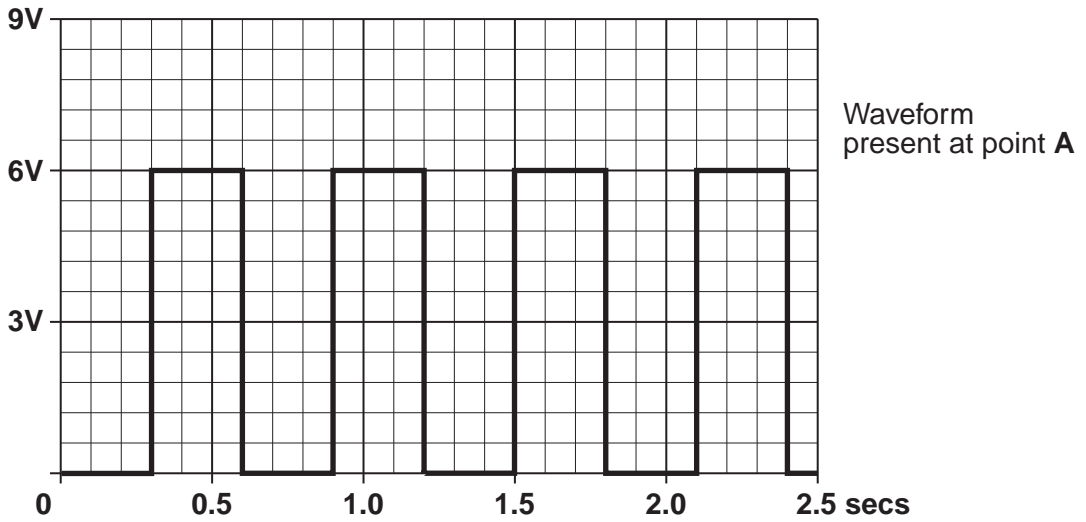
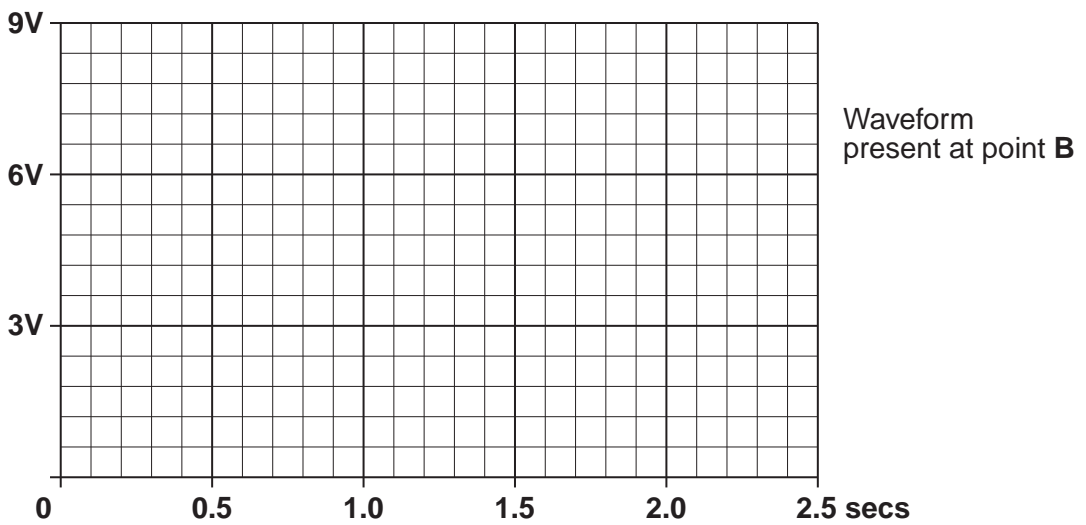

Fig. 6a
Fig. 6b
- (v) Fig. 6a shows the waveform present at point A. Complete the graph in Fig. 6b by drawing the waveform present at point B of the circuit during operation.